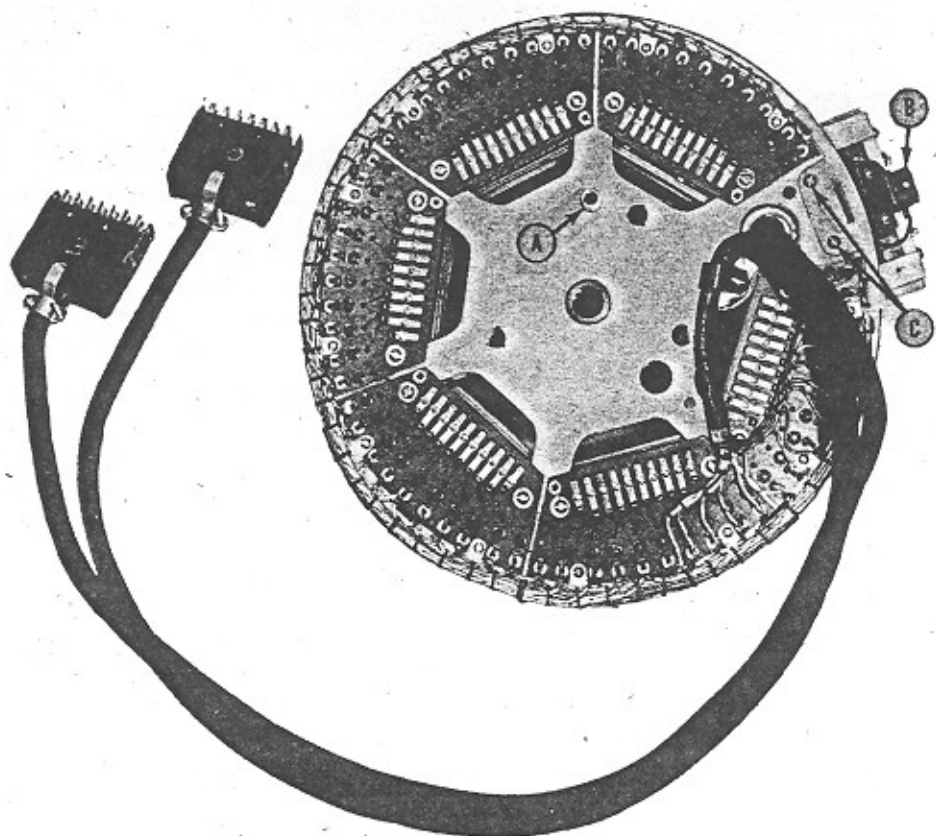

FIG. 1 SELECTOR UNIT
The selector unit is suspended in the mechanism by a shaft inserted through the center of the selector unit into a hollow shaft which supports the record magazine. The selector unit is positioned and kept from rotating by means of a shoulder screw partially visible behind the counter drive gear, at (A-Fig. 1).
3. Take out 2 screws holding selector rail segment (C-Fig. 1) and slide out carriage assembly (B-Fig. 1). Do not remove cable wiring from carriage assembly.
6. Place hand under selector unit for support, and remove shoulder screw at (A-Fig. 1). Lower selector unit and remove.